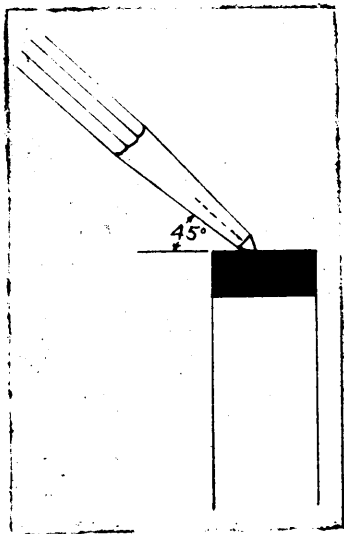

Figure 3.
3. Grind or file the point to a  $90^{\circ}$  angle. (Figure 3.) The grinding should be done before tempering. If a drift punch is to be made, grind the end straight.